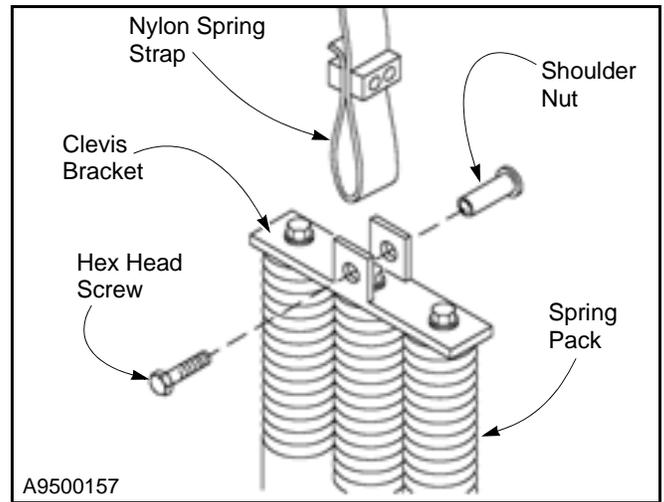

Figure 59
8. To release the strap from the spring pack, remove the hex head screw and the shoulder nut passing through the clevis bracket at the top of the spring pack. Save all hardware. (See Figure 59.)